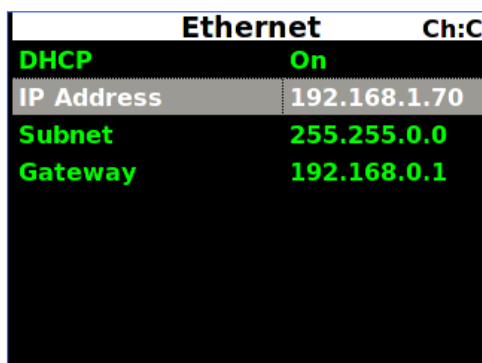

Figure 161: IP Address Selection
1. To assign an IP address, use the down arrow on the keypad to highlight the IP Address (Figure 161), then press the Enter key.